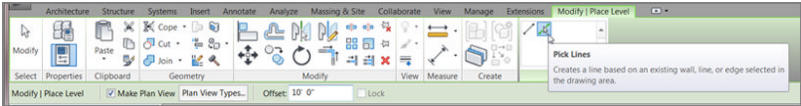

FIGURE 3.5: Choosing the options for the Level command
- 2. On the Draw panel on the Modify | Place Level tab, you see that you can either draw a line or pick a line, as shown in Figure 3.5. Make sure Pick Lines is selected.
4. At the end of the Options bar is the Offset field. Type 10' (3000mm), and press Enter. Basically the approach here is to pick Level 2 and create a new level that is offset 10' (3000mm) above (see Figure 3.5).